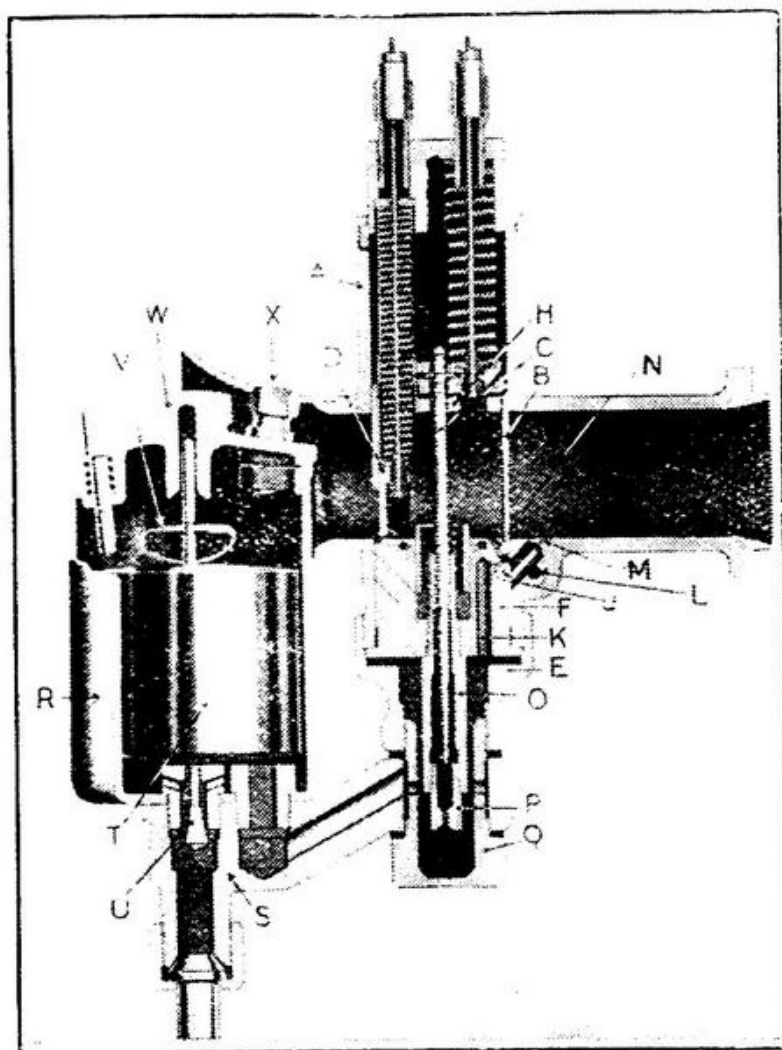

FIG. 18. THE CARBURETTER.
The method of tuning the intermediate mixture is by raising or lowering a taper needle (C, Fig. 18). This is secured by means of a hair pin spring which engages with one of four grooves and secures the needle to the throttle valve (B). Raising the needle makes the intermediate mixture richer and vice-versa. The usual setting is with the hairpin spring in the second groove from the top of the needle.
Take off the petrol pipe, remove carburettor from cylinder head, undo the small nut beneath the mixing chamber (Q, Fig. 18) and take off the float chamber. The jet (P) may then be removed for